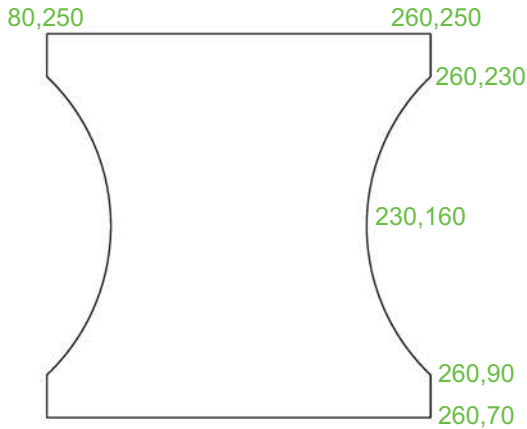

Fig. 4.23 Exercise 1
- Using the **Line** and **Arc** tools, construct the outline given in Fig. 4.23.